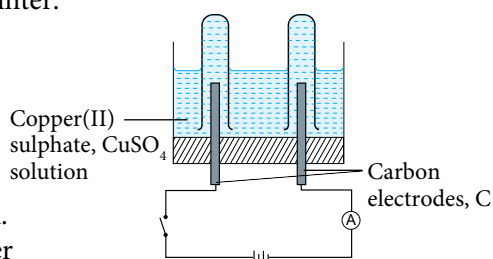

Figure 1.27
1. Pour the 0.1 mol dm^{-3} of copper(II) sulphate, CuSO_4 solution into the electrolytic cell until half full.
2. Fill two test tubes with 0.1 mol dm^{-3} of copper(II) sulphate, CuSO_4 solution until full and invert them on top of the carbon electrodes in the electrolytic cell.
3. Connect the carbon electrodes to the switch, ammeter and battery with the connecting wires to complete the circuit as shown in Figure 1.27.